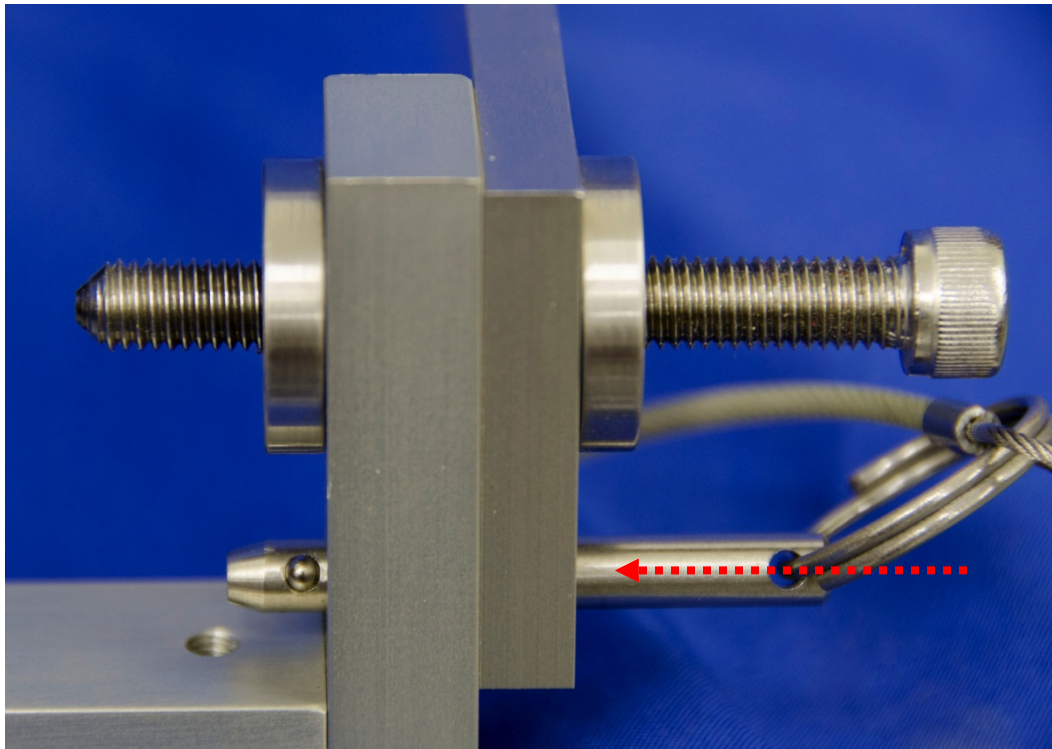

Figure 86. Insert pins into Q3s positioning device
- For this procedure, the pins on either side of Q3s positioning device should both be installed (Figure 86).